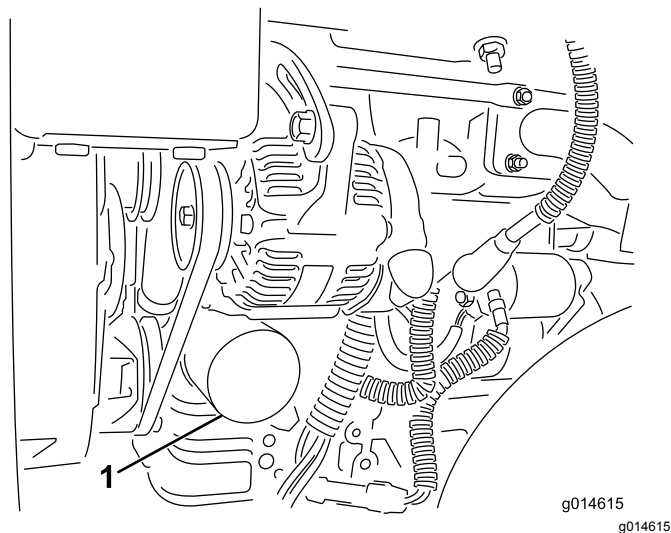

Figure 29
2. Remove the oil filter (Figure 29). Apply a light coat of clean oil to the new filter gasket.